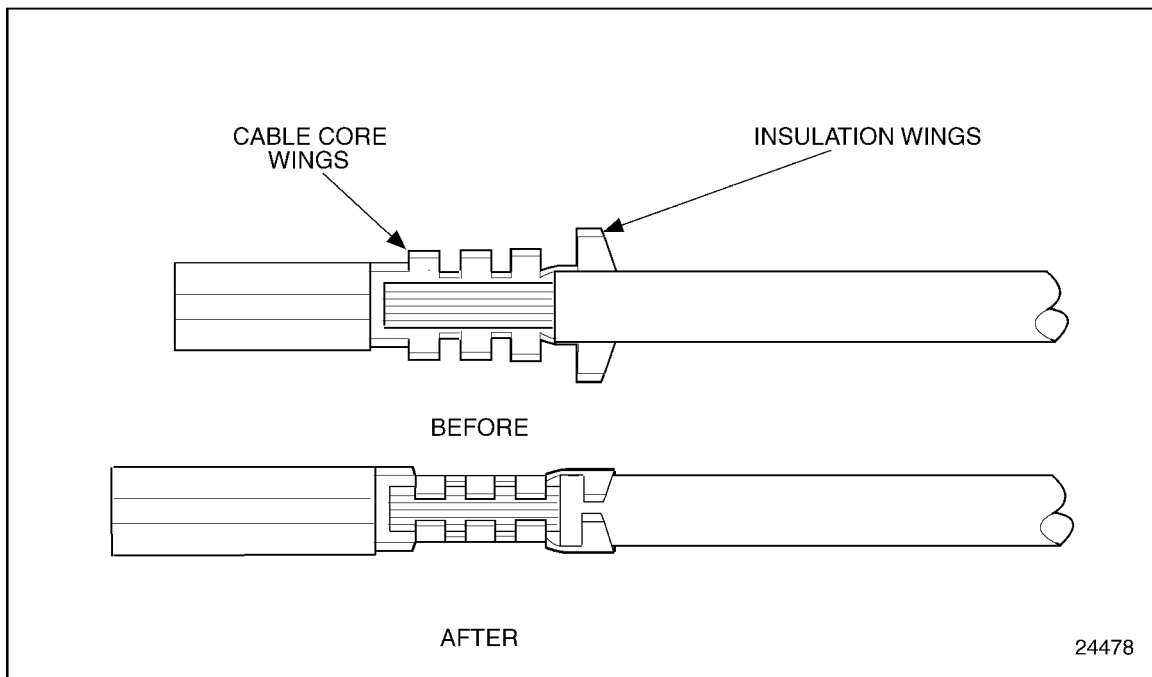

Figure 8-8 Cable and Terminal Position Before and After Crimping
2. Insert the cable into the terminal until the stripped portion is positioned in the cable core wings, and the seal and insulated portion of the cable are in the insulation wings. See Figure 8-8.
3. Compress the handles of the crimping tool until the ratchet automatically releases and the crimp is complete. A properly crimped terminal is shown. See Figure 8-8.